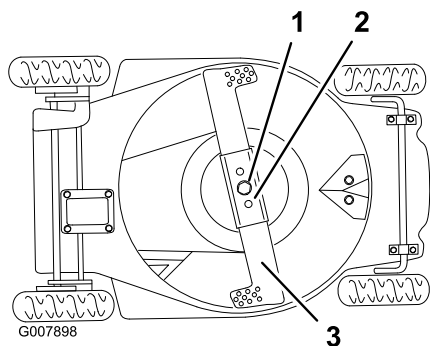

Figure 33
2. Tip the lawn mower onto its **left** side (Figure 33).
2. Remove the blade bolt, the lock washer, the blade, and the blade stiffener (Figure 33).